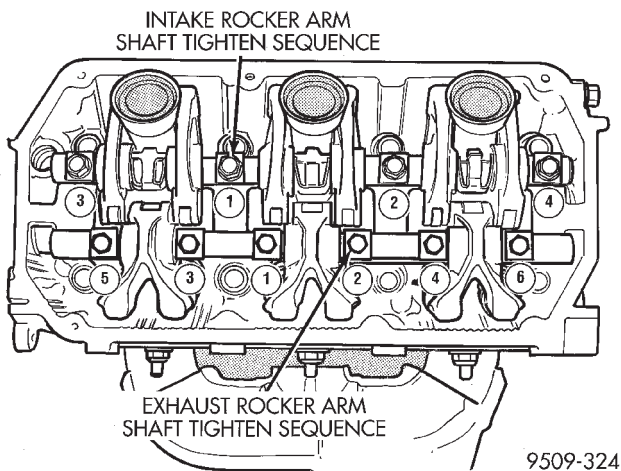

Fig. 38 Rocker Arm Shaft Tightening Sequence
- (2) Tighten bolts to 31 N·m (276 in. lbs.) in sequence shown in (Fig. 38).
- (3) Remove auto lash adjuster retainers Special Tool MD-998443 from rocker arms.